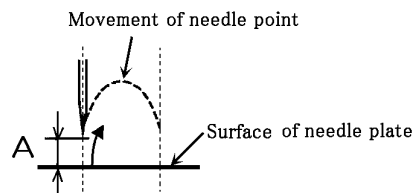

Fig.1
1. When the needle travels from left to right, measure the distance (A) from the surface of needle plate to the needle point.(Fig. 1)